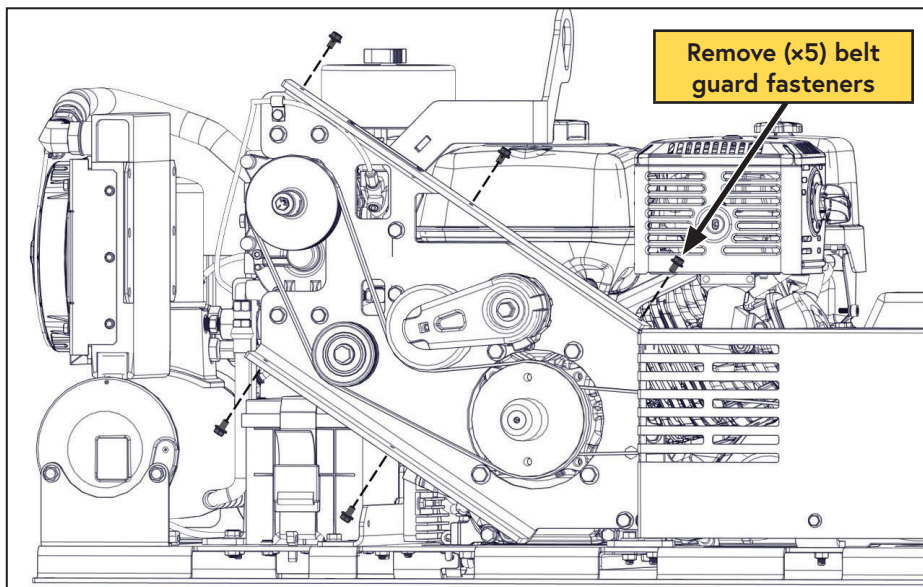

Figure 73 — Remove the belt guard
- Remove the (x5) fasteners from the belt guard and remove the belt guard (Figure 73).